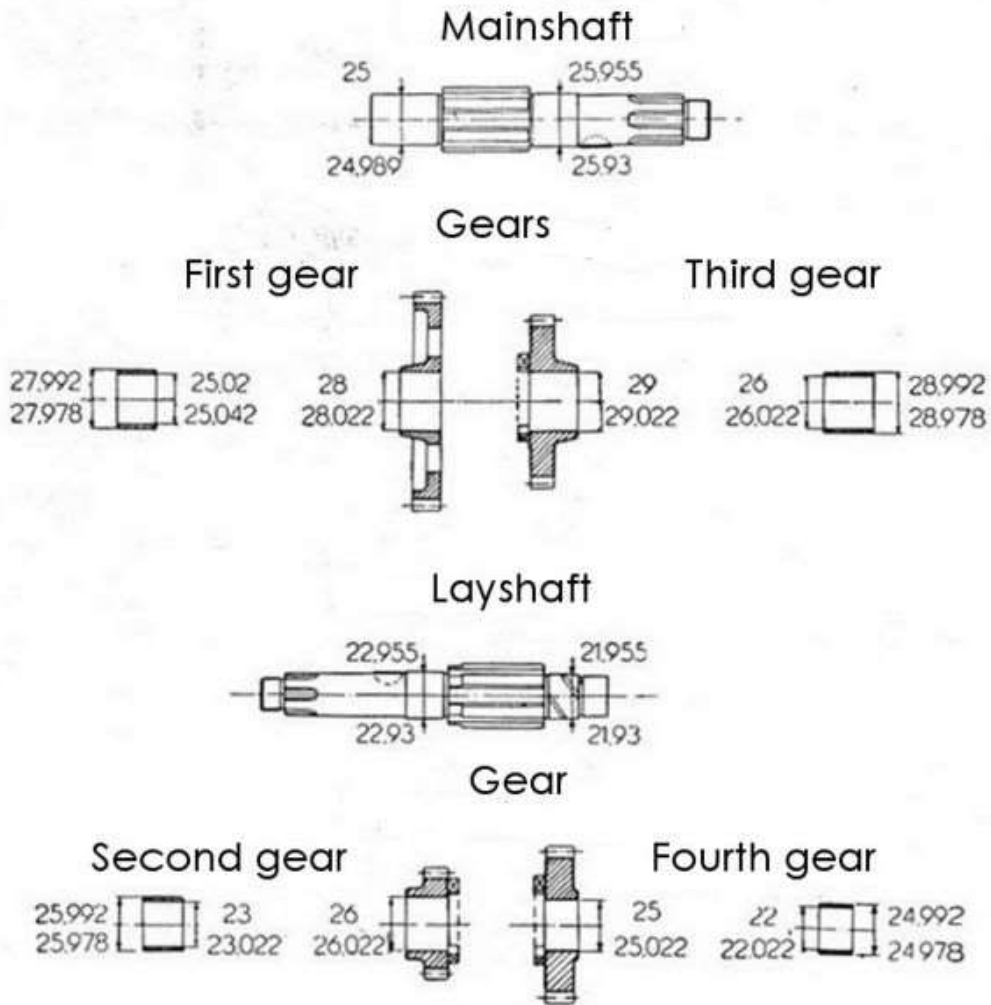

Fig. 22
a) Wash all the parts thoroughly with gas; b) check the gears; the tothing's must not be chipped nor excessively worn, especially the inlets. The grooved holes must also be intact. Those of the lost gear, as well as being perfectly polished without any scratches, must have the wear limits as in Figures 22 and 23. The same considerations also apply to the bushings; c) the shafts must have grooves without fingerprints or burrs. The surfaces of the journals where the bushings work must be perfectly smoothed while their wear must be contained within the limits established in the table (Fig. 23); d) check the wear of the sliding gear control forks both on the guide hole and on the gear thrust planes;